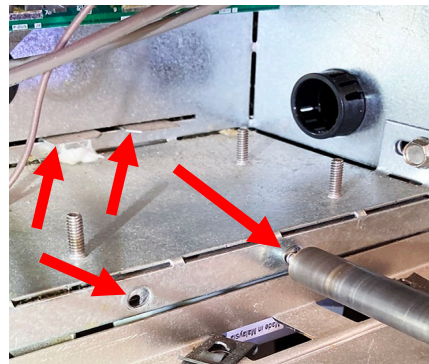

Figure 78
- 77. Slide the module bracket through the slots on the rear of the component box (see Figure 78). Attach the module bracket with the two (2) small drill screws **WITHOUT POINTS**.